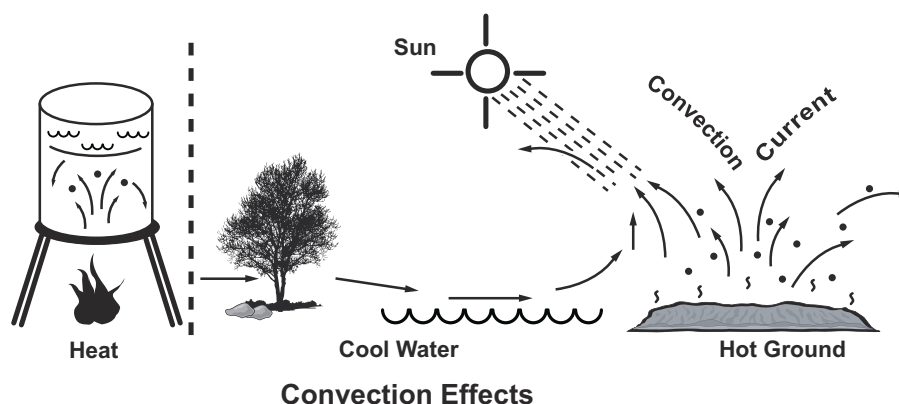

Figure 1-4. Convection Effects.
- *Convection effects.* Convection effects normally occur in the summer due to the sun’s heat reradiating off the surface and causing the air currents to push straight up and lift air to a point of saturation (see fig. 1-4).